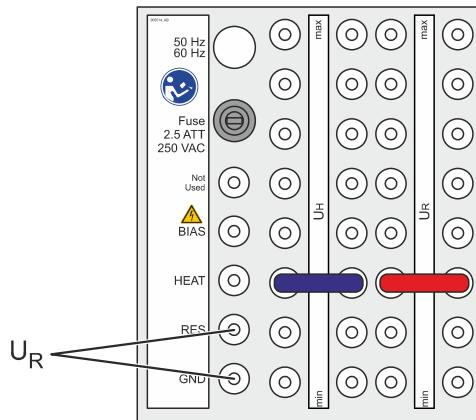

Figure 153: Measuring reservoir heating voltage
7. Measure the heating voltage of the hydrogen reservoir (U_R) between the jacks GND and RES (see Figure 153) and note the value.